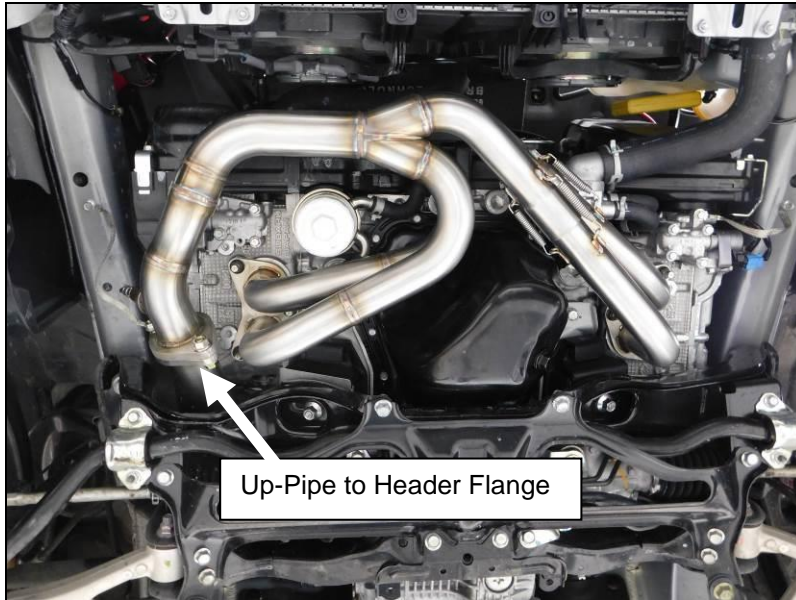

Figure 5
5. Install the 2 bolt gasket at the header to up-pipe flange and install the provided M10 x 35mm bolts and flange nuts (**Figure 5**).